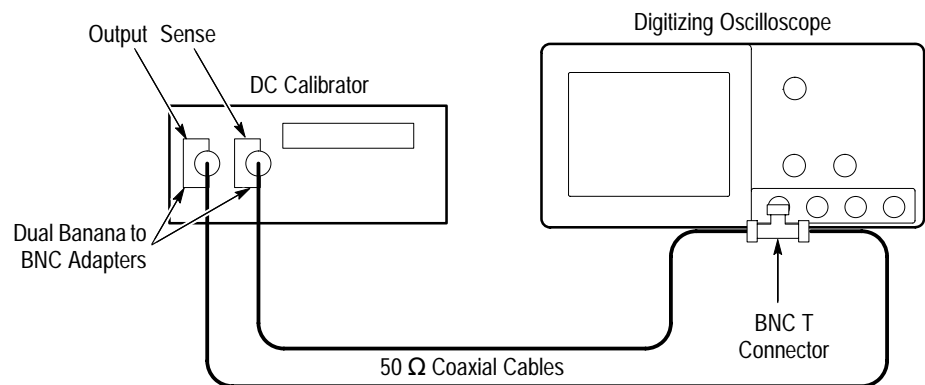

Figure 1–5: Initial Test Hookup
- Connect the output of a DC calibration generator through a dual-banana connector followed by a 50 Ω precision coaxial cable to one side of a BNC T connector (see Figure 1–5).